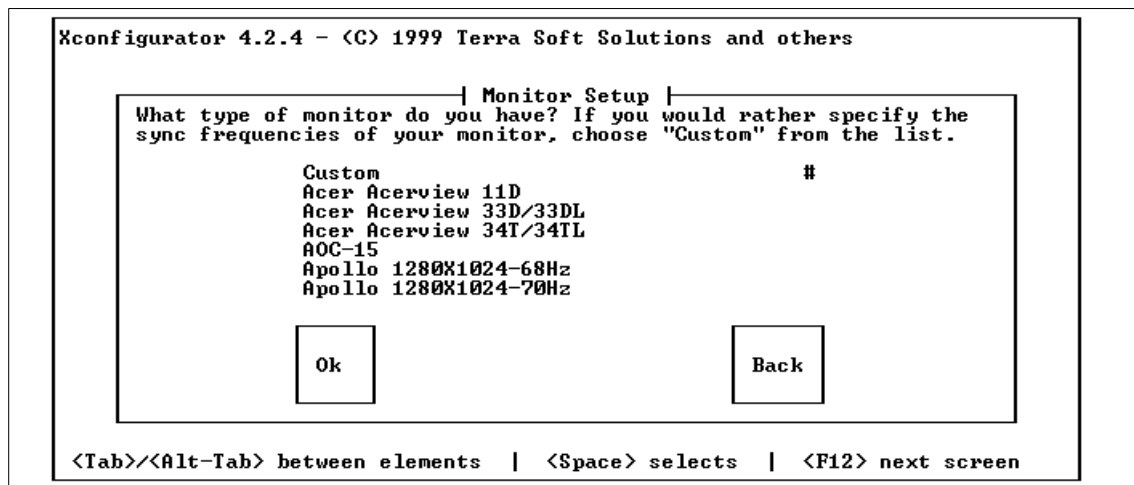
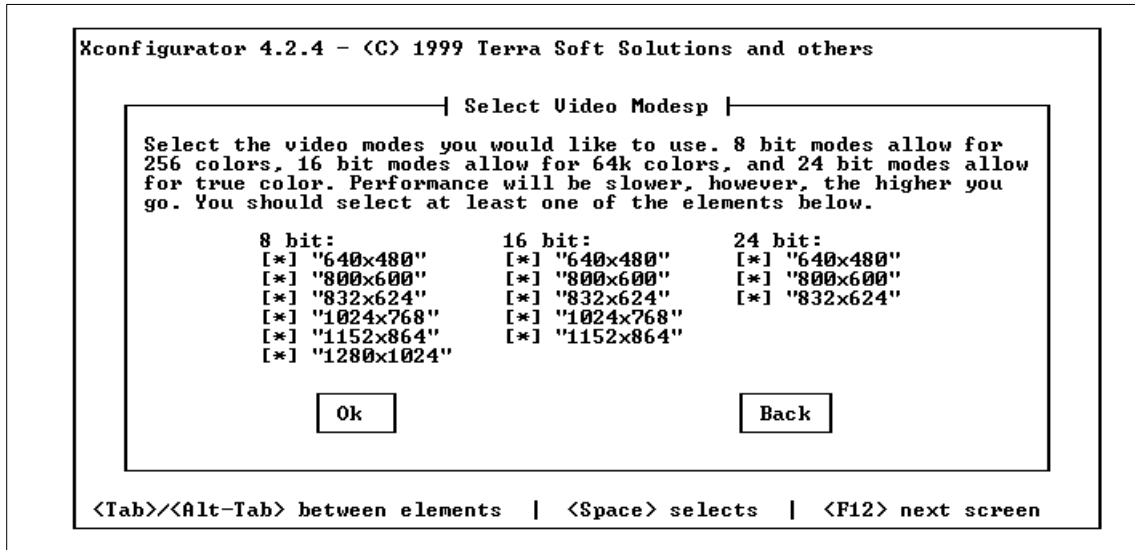

Figure 50. Monitor Selection/Setting
Figure 51. Resolution Selection for Display
27. Select your monitor type and X window system configurations (see Figure 50 and Figure 51 on page 177). You can select the resolutions available on the target machine. When a test pattern is appropriately displayed on your screen, select the **Yes** button to complete.